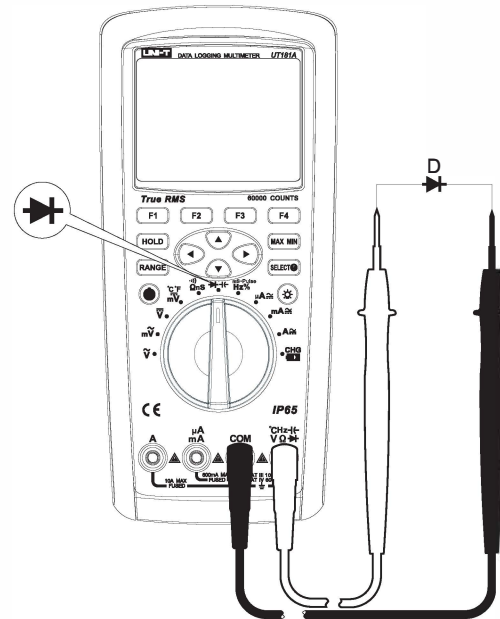

Figure 10
- 2) Set the rotary switch to the measurement  $\rightarrow| \perp$  and the diode measuring mode  $\rightarrow| \perp$  is default. Connect the test leads to both ends of the measured diode as shown in Figure 10. Directly read the approximate forward PN junction voltage of the measured diode on the display.